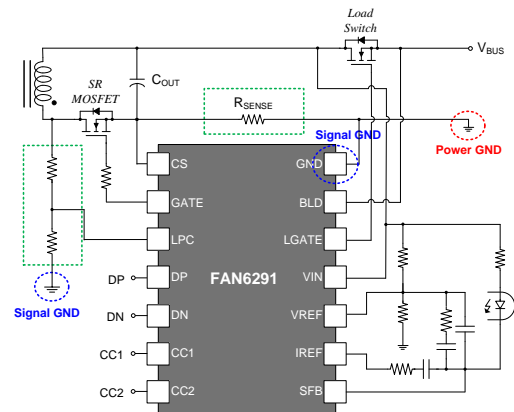

Figure 32 Power and Signal Ground on the Secondary-Side
- The main power flows through  $Q_2$ ,  $C_{OUT1}$ ,  $C_{OUT2}$  and  $R_{CS}$ . This power path should be separated with signal grounds which are connected to FAN6291Q. In addition, it is recommended that power ground is directly connected to Y-cap. Refer to Figure 32.